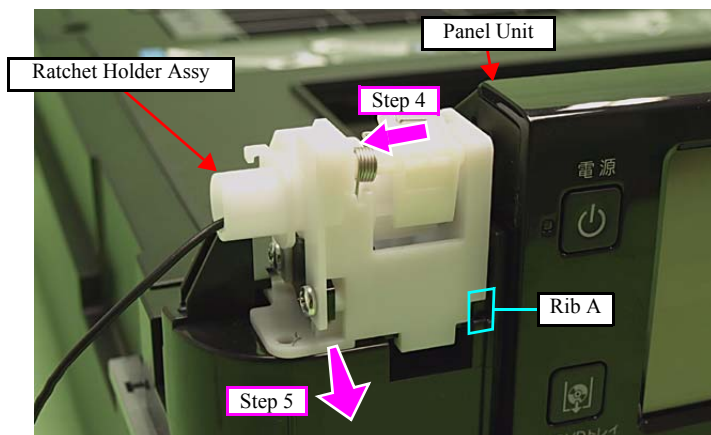

Figure 4-36. Removing the Ratchet Holder Assy (2)
4. Slide the Ratchet Holder Assy to the left, and release the rib A. (See Fig. 4-36.)
- Insert the rib A of the Ratchet Holder Assy to the position shown in Fig. 4-36. (See Fig. 4-36.)